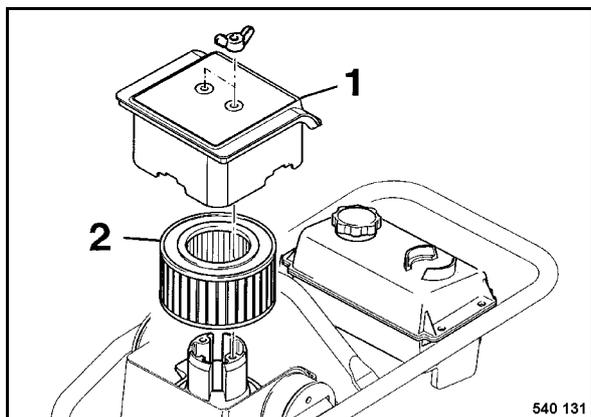

Fig. 44
- Remove cover 1 (Fig. 44), take filter cartridge (2) carefully out.